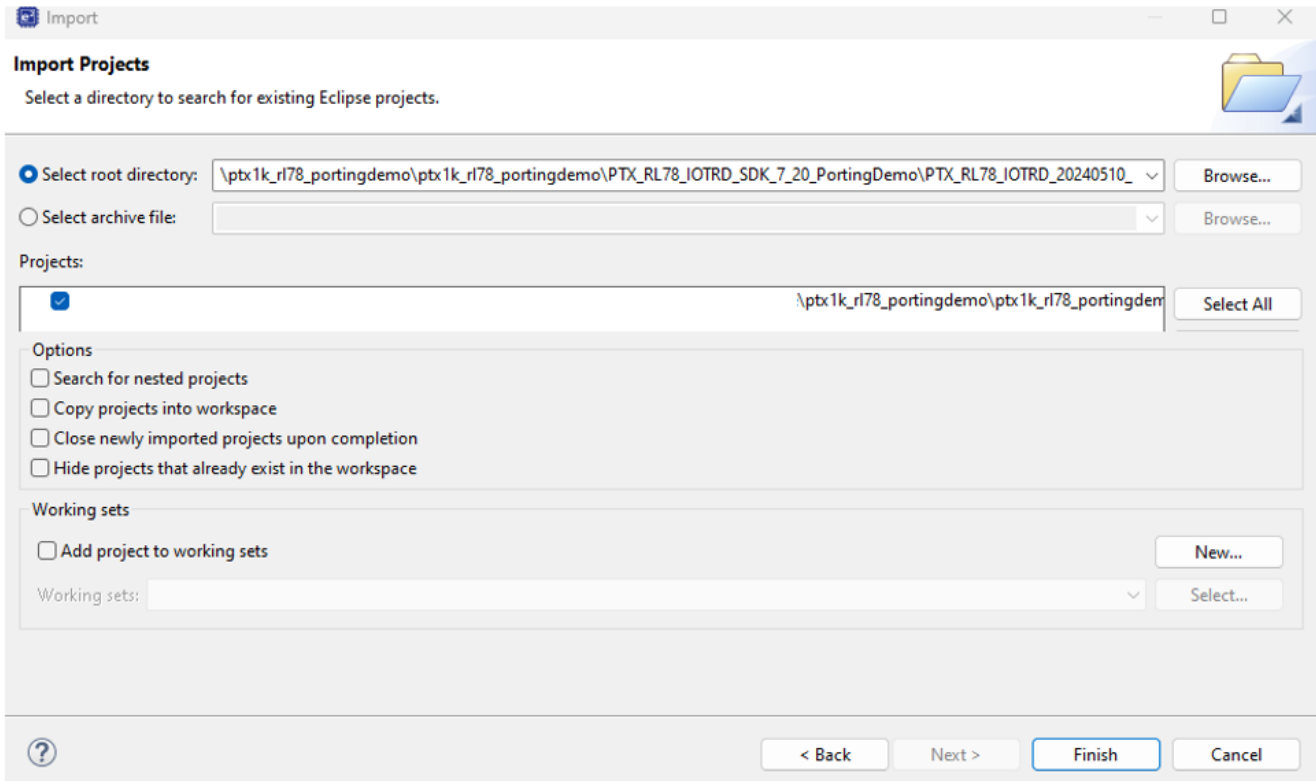

Figure 4. Browse to Project Location
- Figure 4. Browse to Project Location4
5. The root directory must be selected. Click on **Browse**, navigate to **ptx1k_rl78_portingdemo\PTX_RL78_IOTRD_SDK_7_20_PortingDemo\PTX_RL78_IOTRD_20240510_** and select this folder (see Figure 4).